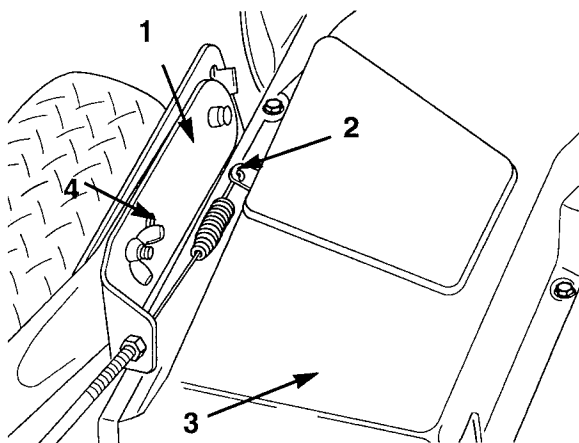

Figure 64
1. Remove the wing nut and lock washer holding the traction bracket against the left-hand handle bracket (Fig. 64).
2. Rotate the traction cable and bracket assembly upward and remove the cable hook from the transmission lever (Fig. 64).